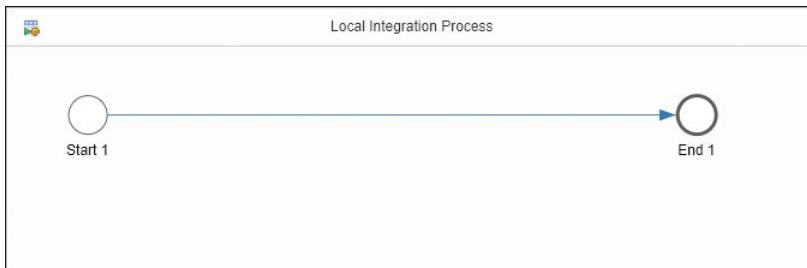

Figure 6.32 Newly Positioned Local Integration Flow
2. After you've positioned the subprocess beneath the main process, you'll get a new pool containing an empty flow (Figure 6.32).